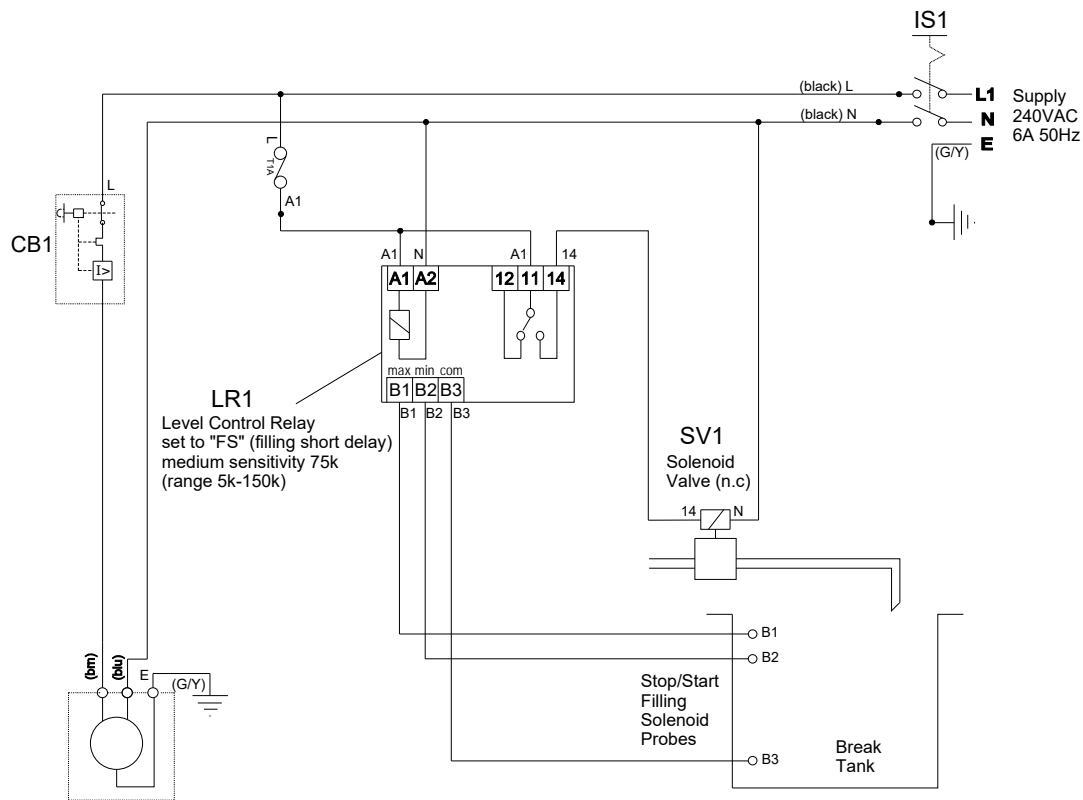

Fig. 1.7 Typical example of AquaBreak electrical connections.
1.3.6.3 Connect incoming electrical mains supply to identified terminals on isolator IS1 in control panel (see fig. 1.7). Ensure voltages and frequency indicated on the motor nameplates and wiring diagrams correspond with supply mains data and that the supply fuse type & rating is correct for the total current rating of the equipment.